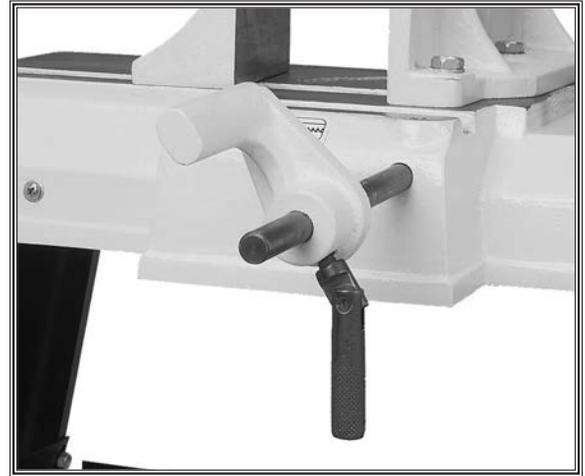

Figure 18. Work stop and lever.
- Use the work stop to quickly and accurately cut multiple pieces of stock to the same length (see **Figure 18**).